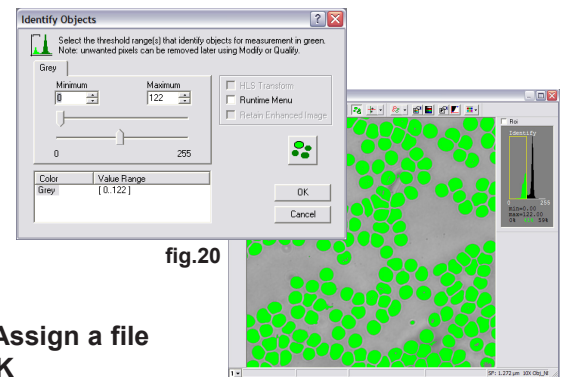

fig.20
4. Close the **Capture** window. Click **Identify** in the **Task** toolbar. Adjust the minimum and maximum sliders until the objects of interest on the image are covered with green overlay (fig.20).